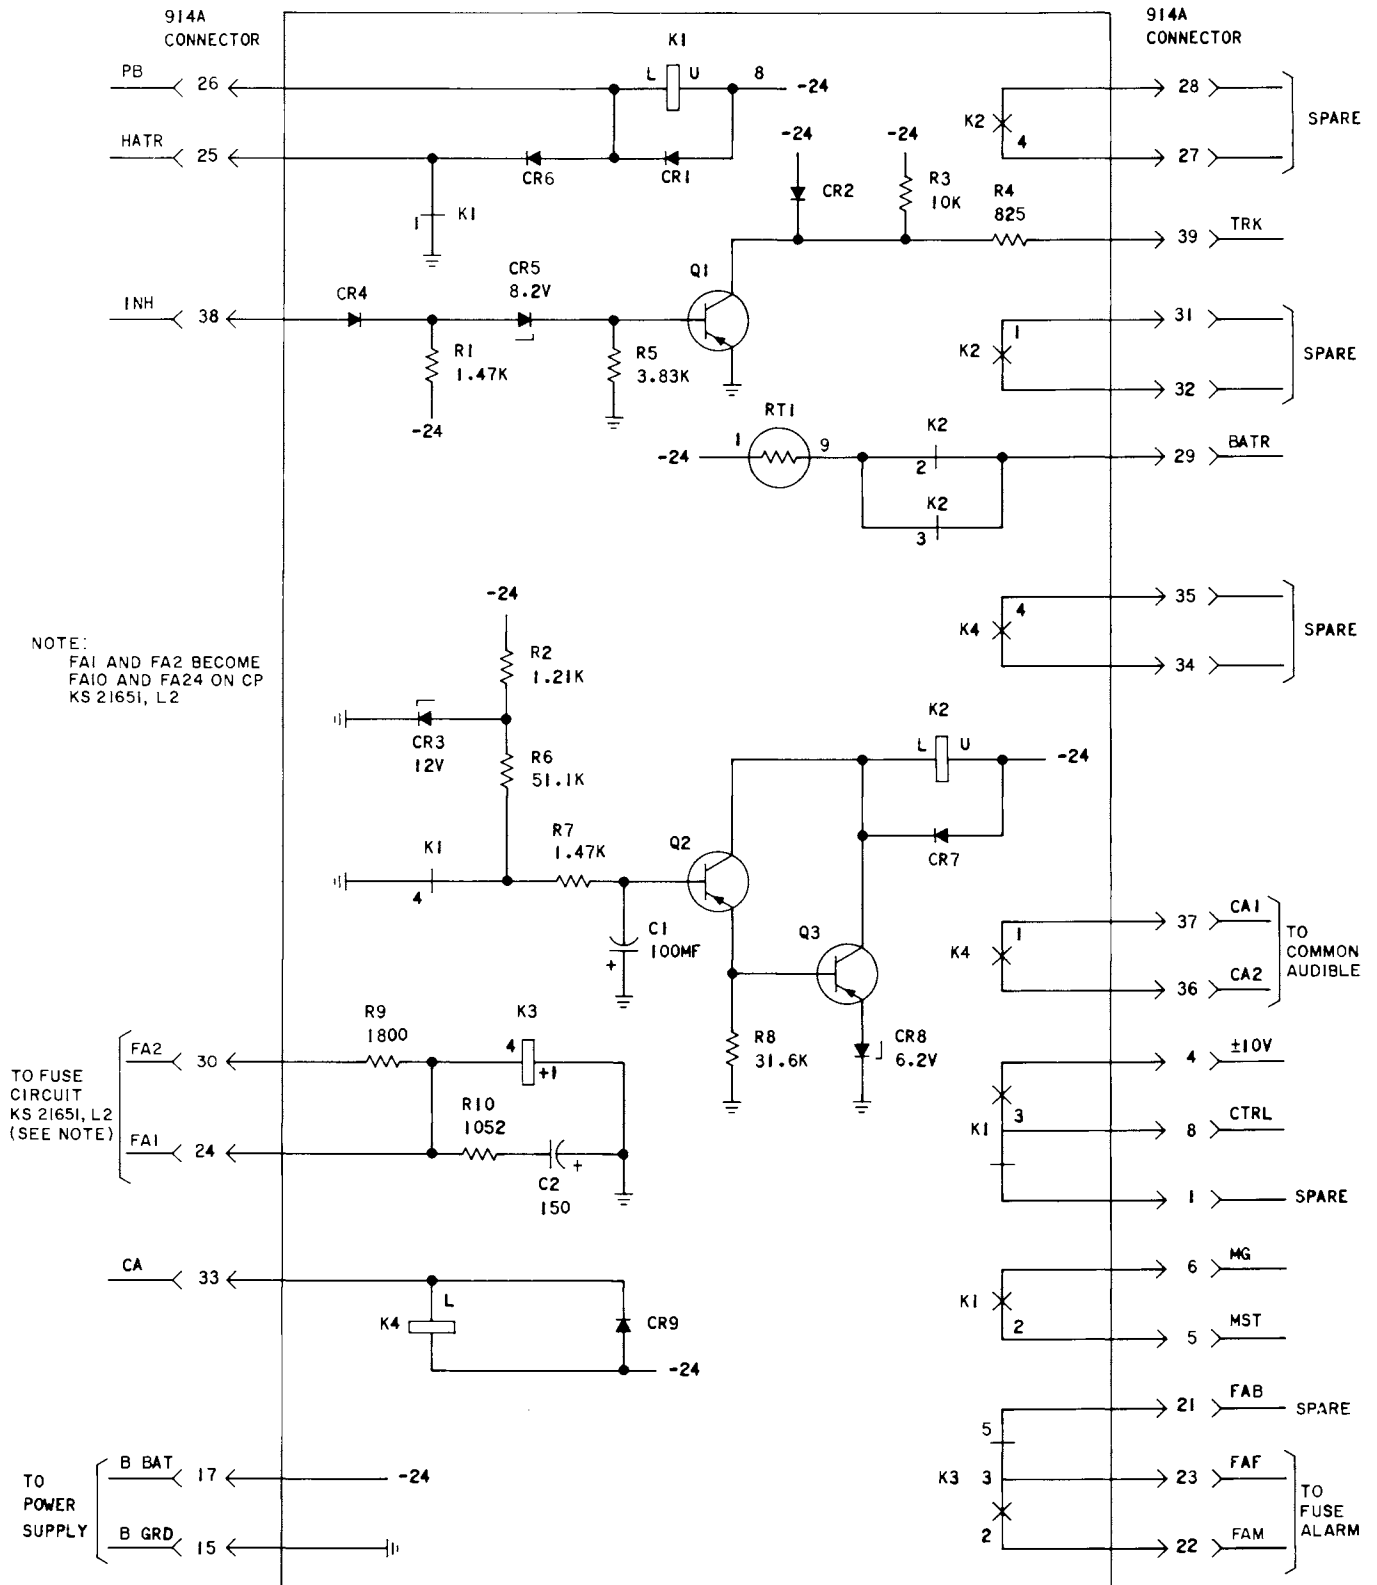

Fig. 10—Condensed Functional Schematic of Circuit Pack AE40 (Transfer Control Circuit)
3.07 The AE40 (Fig. 10) is common to all attendant positions. When the 911 attendant operates the nonlocking TRF button on the CALL DIRECTOR set, the AE40 excludes all other attendant positions from the transfer switch until the attendant selects a 2-way line. The TRF lamp of the originating attendant position operates at LTR (30 ipm) and lights steadily at all other attendant positions until transfer is complete. The 911 attendant has approximately 5 seconds to complete the transfer before the timer circuit of the AE40 operates and releases the attendant who initiated the transfer. The AE40 also provides a common audible relay (K4) to drive an external ringer. A fuse alarm relay (K3) is provided to operate an external fuse alarm. One AE40 is required per 911 system.